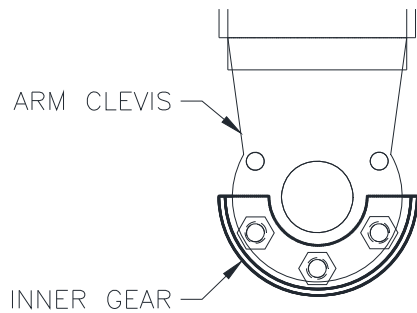

Fig 20 – Symmetric Inner Gear
- 37) For Asymmetric installation, skip to step 39. Ensure the Inner Gear is positioned on the arms as shown in **Fig 20**. Lubricate the Arm Pin or carriage arm pin hole with “anti-seize” and install the arms. Place snap ring in groove on bottom of arm pin. Ensure that the arm restraint gears engage and disengage properly. Arm restraint gears should disengage completely when lift is fully lowered. When gears are engaged, Outer Gear should lower enough for top of teeth to be level with top of Inner Gear teeth. If any binding occurs, adjust Inner Gear as necessary.